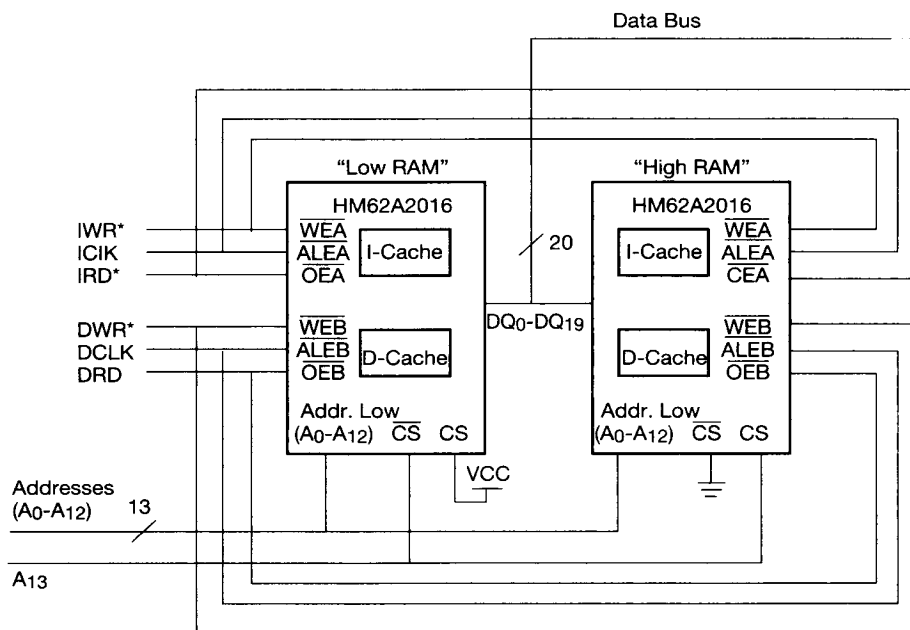

Figure 1. 16k x 20 x 2 Cache SRAM from two 8K x 20 x 2 Cache SRAMs
Each HM62A2016 has a latched active high chip select input (CS) as well as an active low input ( $\overline{\text{CS}}$ ). Depth expansion is achieved by connecting address line (A13) into CS and  $\overline{\text{CS}}$  inputs of two HM62A2016's and grounding or tying to VCC the other remaining chip select of each device, as shown in figure 1. Corresponding (A or B) control inputs (OE, WE, and ALE) of depth-expanded HM62A2016's should be tied together.